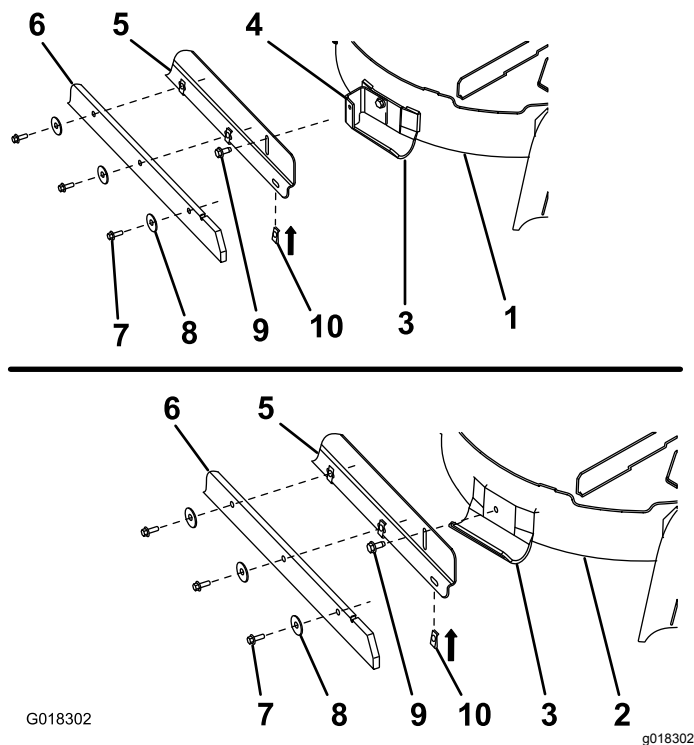

Figure 3
1. Align the clip nut so that the flat leg of the clip nut faces away from the mower deck (Figure 3). Position the 5 clip nuts over the wiper flange of the striping bracket. Aligned the clip nuts holes with the bracket holes.
2. Position the wiper on the wiper flange of the striping bracket (Figure 3). Align the holes in the wiper with the clip nuts.
3. Secure the wiper to the bracket using the 5 hex head screws (5/16 x 3/4 inch) and 5 washers as shown in Figure 3.